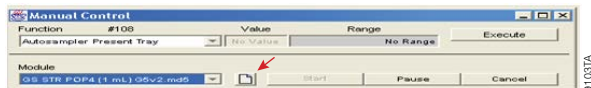

Figure 12. The Manual Control screen.
4. Click on the folded page icon (Figure 12).